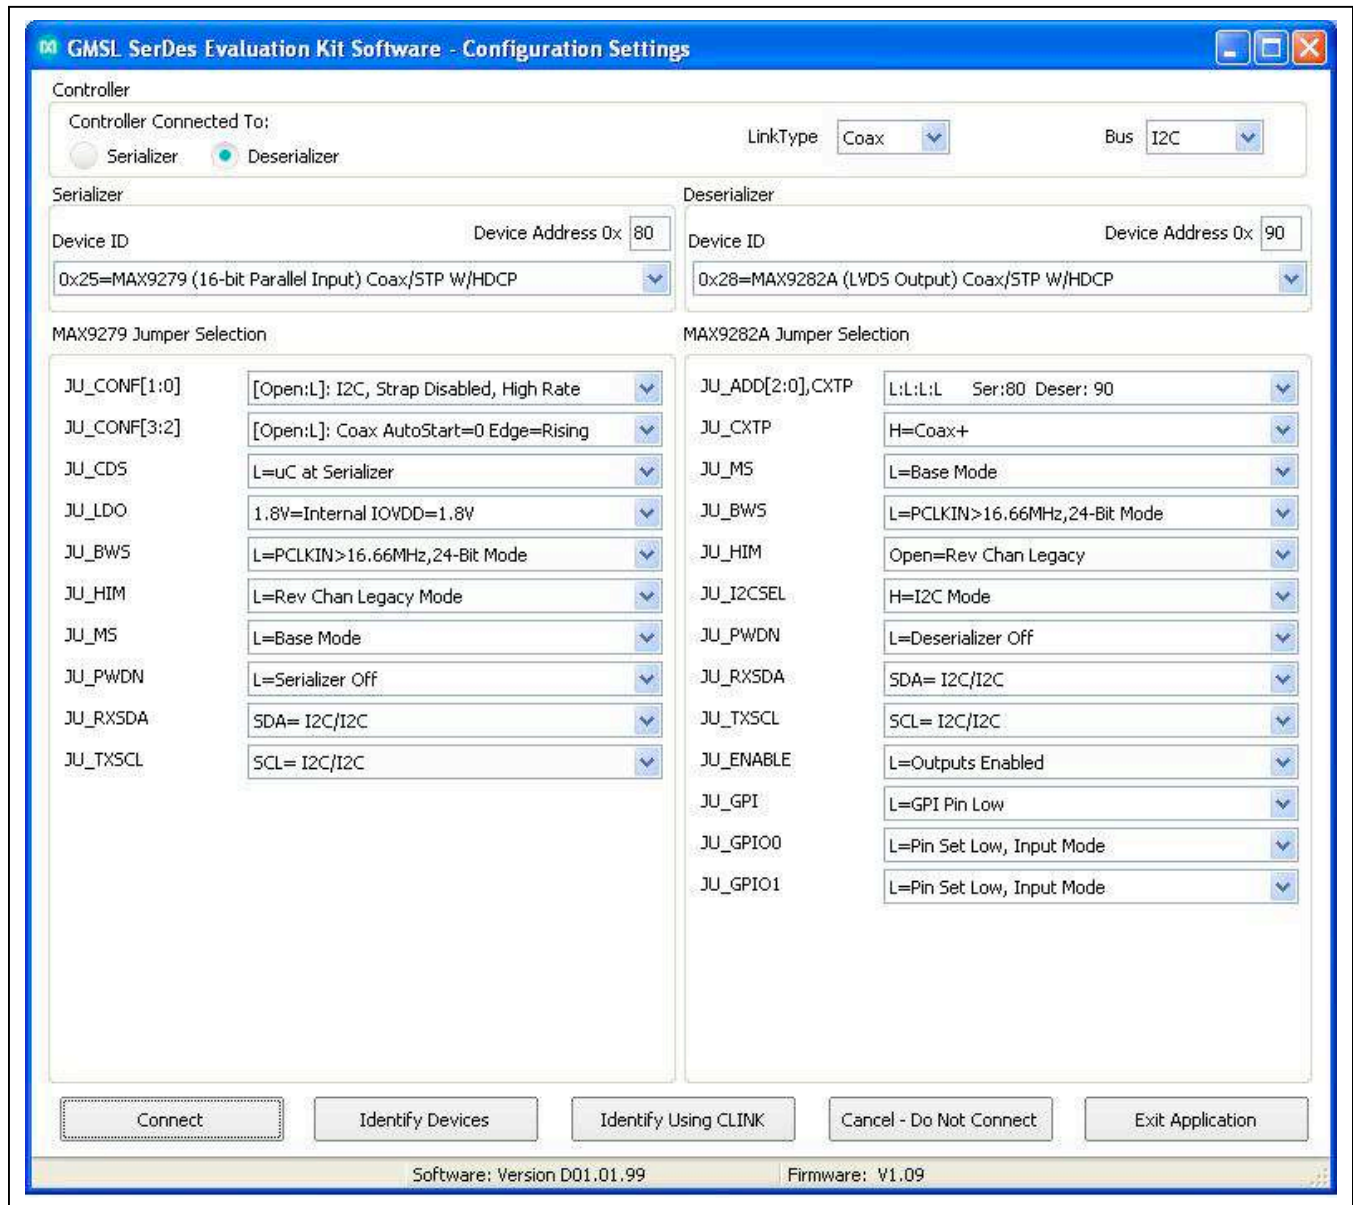

Figure 2. MAXSerDesEV-D Evaluation Kit Software (Configuration Settings Window)
- 9) The **Configuration Settings** window opens (Figure 2) and the GUI automatically searches for any active listener in both I²C and UART mode and identifies the valid GMSL products. Once any valid device is identified, the corresponding configuration jumpers are displayed to help users configure the SerDes.
The **Configuration Settings** window (Figure 2) is the first window that opens after program launch. It allows the user to specify evaluation board setup and mode of operation.